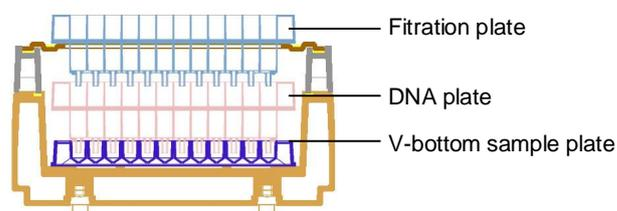

Figure1: Filtration and binding set
- Connect the vacuum manifold to the vacuum source. Remove the manifold top and place a 96-well V-bottom sample plate and an AxyPrep DNA plate into the manifold base. Replace the manifold top and place an AxyPrep Filtration plate onto the manifold top. Be sure that filtration plate drip directors are aligned with the wells of the DNA plate underneath (Please refer to Figure 1).